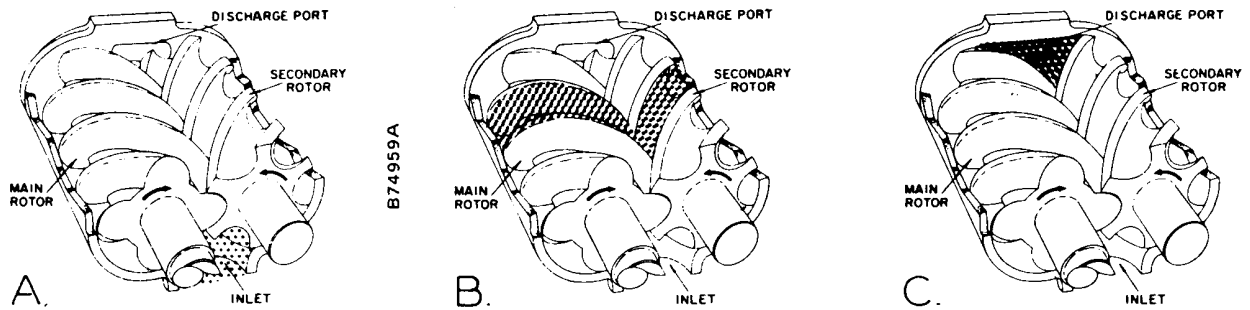

Figure 1-1 – COMPRESSOR CYCLE
COMPRESSION PRINCIPLE (Figure 1-1) - Compression is accomplished by the main and secondary rotors synchronously meshing in a one-piece cylinder. The main rotor has four (4) helical lobes 90° apart. The secondary rotor has five (5) matching helical grooves 72° apart to allow meshing with main rotor lobes.
The air inlet port is located on top of the compressor cylinder near the drive shaft end. The discharge port is near the bottom at the opposite end of the compressor cylinder. *Figure 1-1 is an inverted view to show inlet and discharge ports.* The compression cycle begins as the rotors unmesh at the inlet port and air is drawn into the cavity between the main rotor lobes and the secondary rotor grooves (A). When the rotors pass the inlet port cutoff, air is trapped in the interlobe cavity and flows axially with the meshing rotors (B). As meshing continues, more of the main rotor lobe enters the secondary rotor groove, normal volume is reduced and pressure increases.